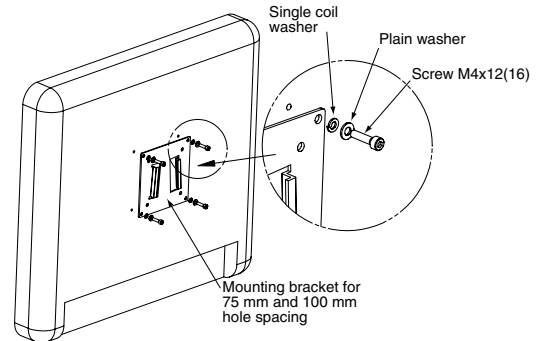

Figure 2
- ② Fasten bracket to wall.
- ③ Fasten the mounting plate to the back panel of your Flat Panel Display with the provided screws and washers (see Fig. 2).